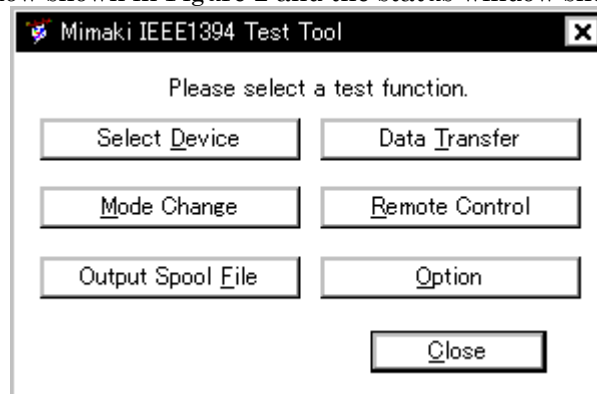
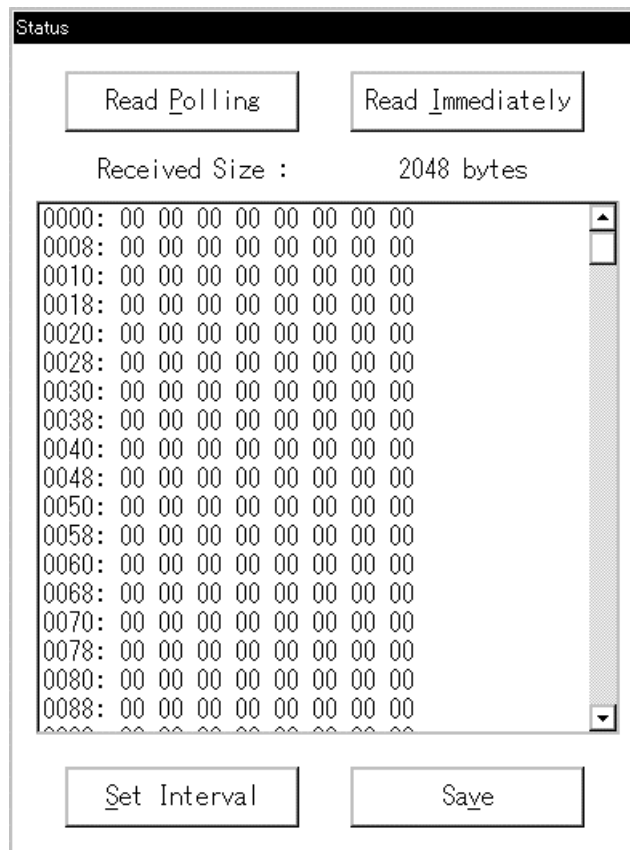

Figure 2 Main window
Figure 3 Status window
2.3 The main window shown in Figure 2 and the status window shown in Figure 3 open.
For the Status window shown in Figure 3, a driver-pollled status block is read at every interval set at Option (8). The polled status is also read if the Read Polling button is clicked.
When this switch is turned ON, the window shown in Figure 3 opens and the status is polled. This also makes the tool ready to reset a bus or to receive an error notice.